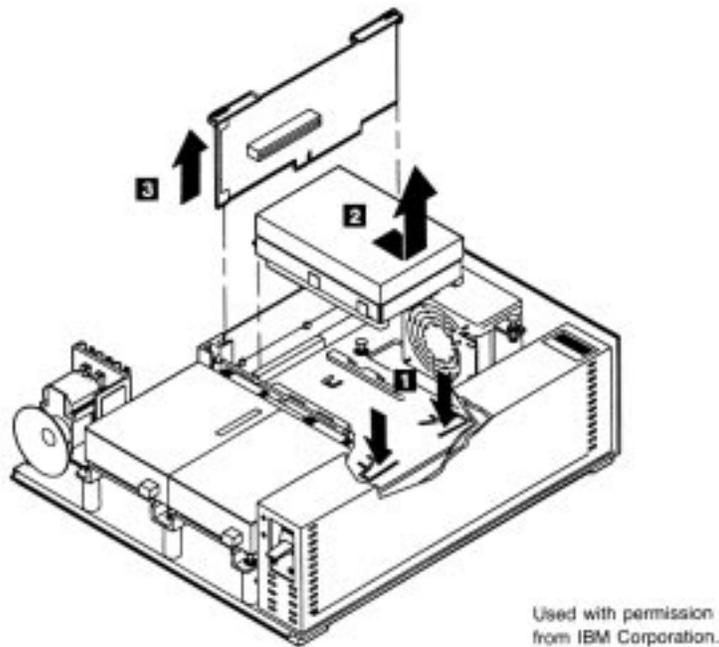

Fig. 3.31
3. Grasp the adapter at each end, and gently pull the adapter up (see fig. 3.31).